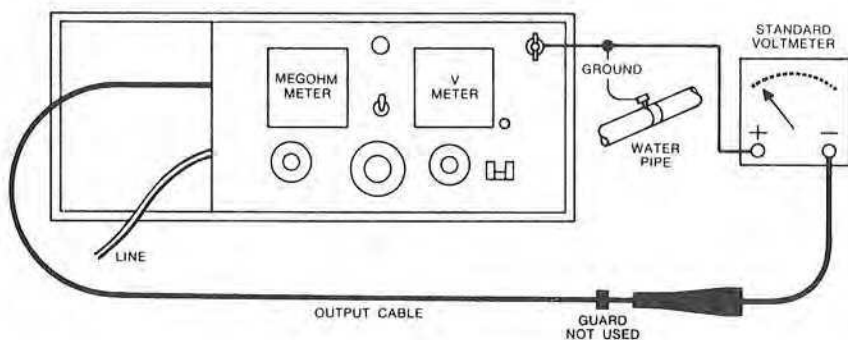

Figure 10: Connections for recalibration of Voltmeter.
1. Connect the Test Set as shown in Figure 10.